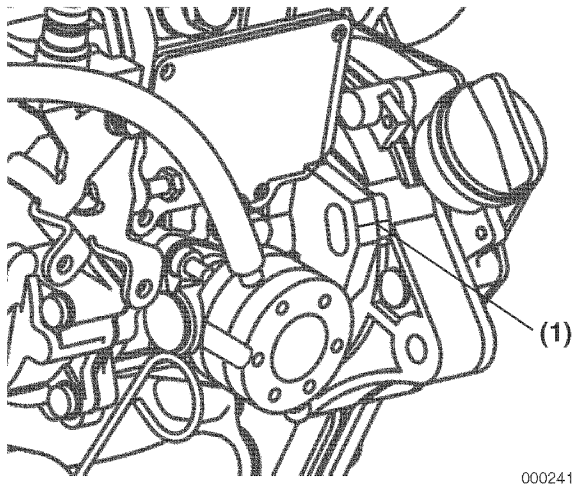

Figure 7-19
6. Align the reference marks (Figure 7-19, (1)) made during disassembly on both the fuel injection pump mounting flange and gear case. If installing a replacement fuel injection pump, align the manufacturer-applied mark on the pump mounting flange with the mark made on the timing gear cover.